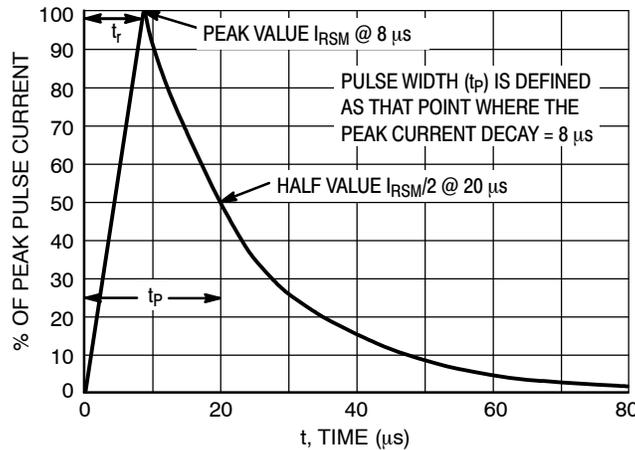

Figure 5. 8 X 20 μs Pulse Waveform
- Surge current waveform per Figure 5.